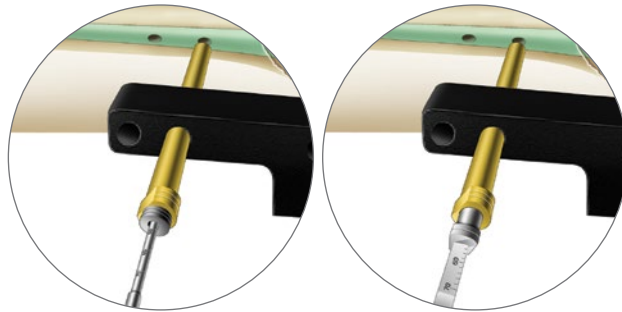

Figure 20
6. A length measurement can be taken from the calibrations on the drill against the 3.2mm Silver Inner Drill Sleeve, or the Screw Depth Gauge (7175-1139) can be used through the Humeral Gold Outer Drill Sleeve to measure for distal locking screws (Figure 20).